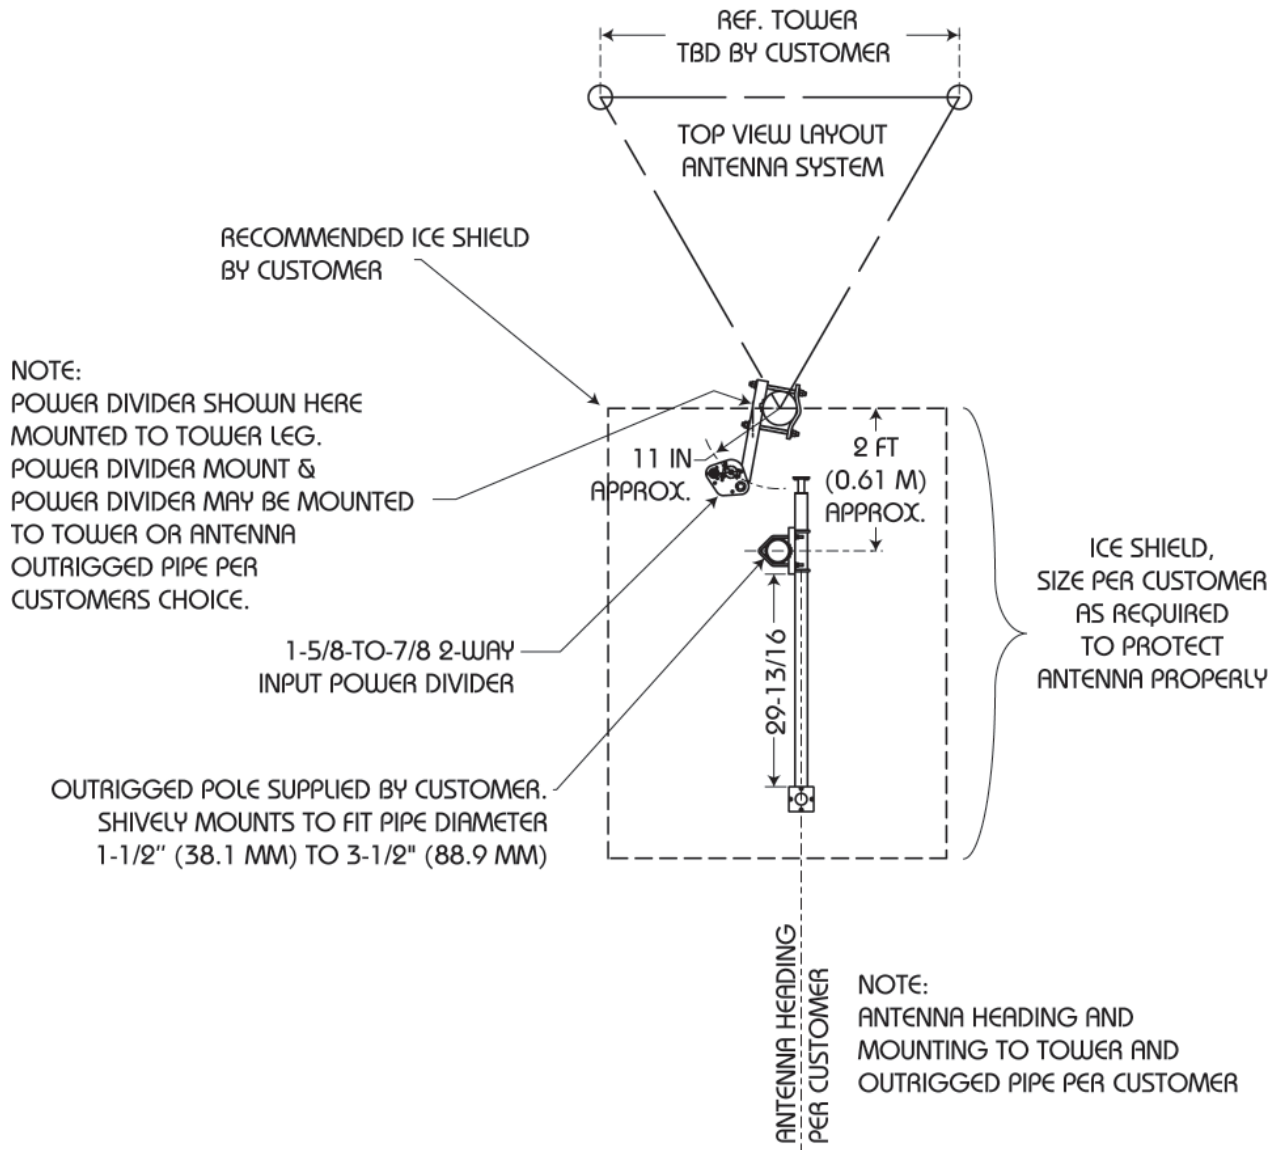

Figure 4. Top view
- g. DO NOT COIL any excess cable. Dress up any excess cable and tie-wrap it to the tower leg, as shown in Figure 4, to prevent wind damage to the cable or the antenna. When feasible, route the cables to take advantage of shielding from tower members to minimize added windload.